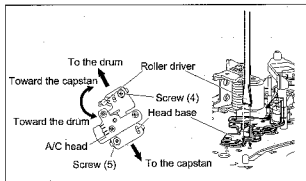

Fig. 4-2e
- (1) Play back the alignment tape (A1).
- (2) Apply the external trigger signal to D.F.F (E), to observe the V.PB FM waveform at the measuring point (D).
- (3) Set the VCR to the manual tracking mode.
- (4) Loosen the screws (4) and (5), then set the Roller driver to the innermost projected part of the A/C head. (See Fig. 4-2e.)
- (5) Rotate the roller driver so that the A/C head comes closest to the capstan. From there, move the A/C head back gradually toward the drum until the point where the FM waveform is maximized for the second time, and then tighten the screws (4) and (5) temporarily.
- (6) Play an alignment tape (A2) and set to the manual-tracking mode.
- (7) Fine-adjust A/C head base position to maximize the FM waveform, and then tighten the screws (4) and (5) firmly.
- (8) Play alignment tapes (A1) and (A2) and confirm that the FM waveforms are maximized when the tracking is at the center position.